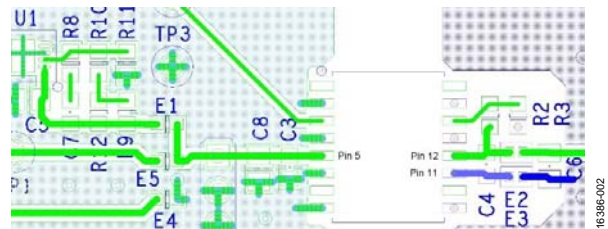
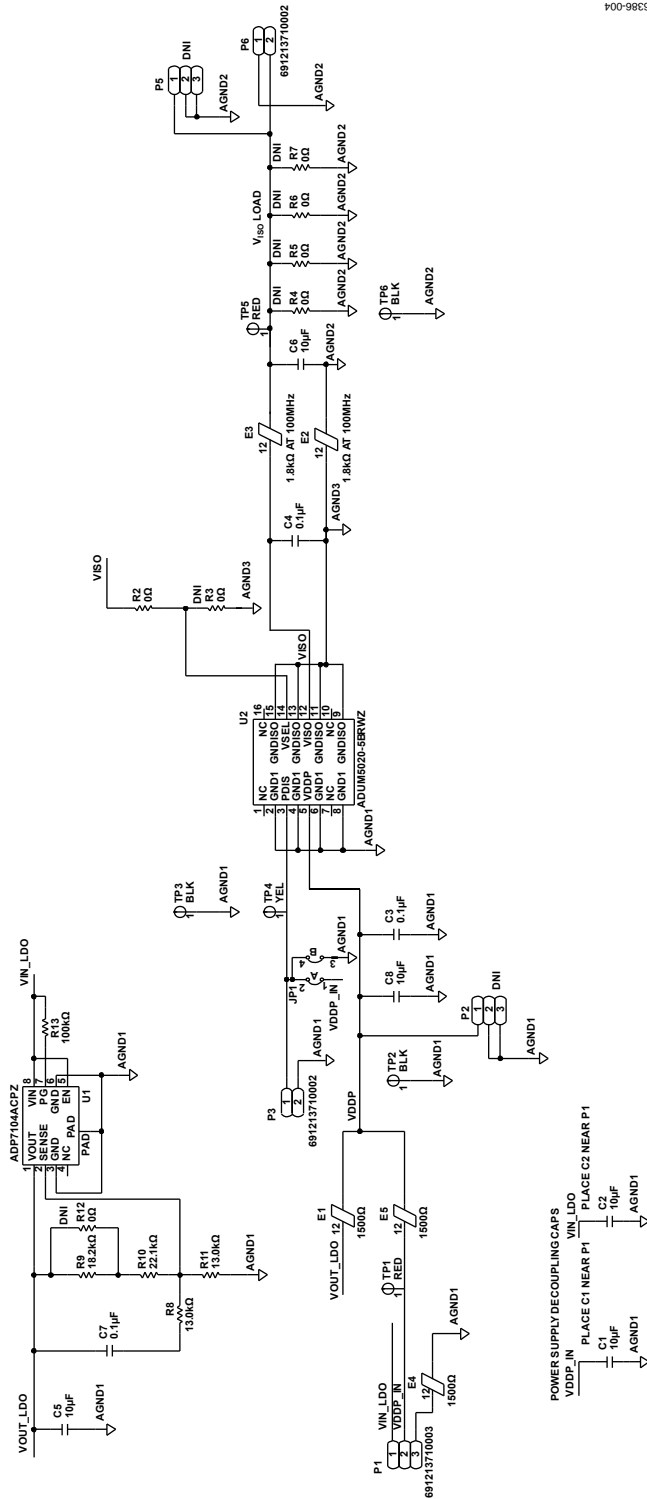
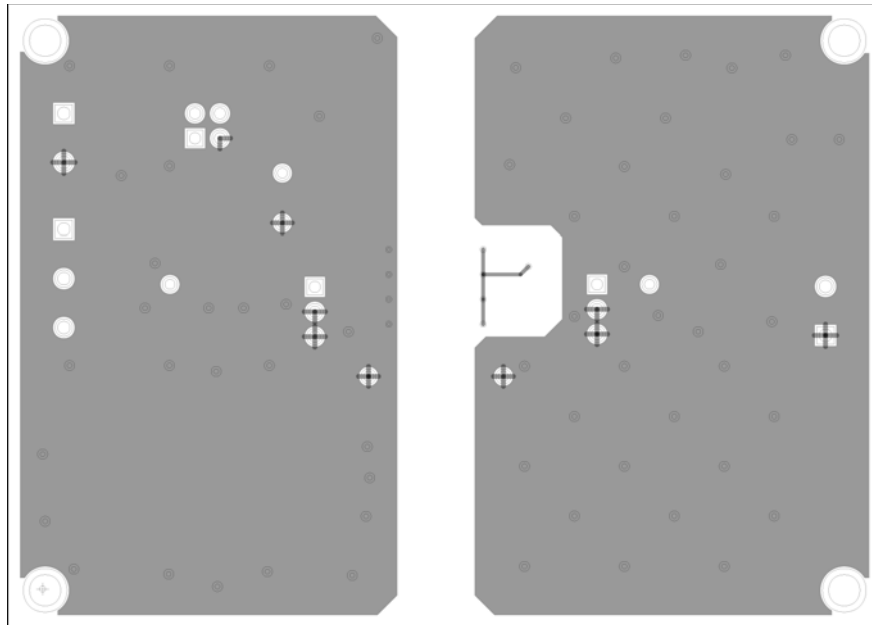

Figure 2. Layout Notes for EVAL-ADUM5020EBZ
Figure 5. EVAL-ADuM5020EBZ Evaluation Board Schematic
Figure 7. EVAL-ADUM5020EBZ Evaluation Board Bottom Layer and Silkscreen
To reduce the level of electromagnetic radiation, increase the impedance to high frequency currents between the V_{ISO} and the GND_{ISO} pins and the PCB trace connections. Using this method of emissions suppression controls the radiating signal at its source by placing surface-mount ferrite beads in series with the V_{ISO} and GND_{ISO} pins (see Figure 5). The impedance of the ferrite bead is approximately 1.8 k Ω between the 100 MHz and 1 GHz frequency range. This impedance value reduces the emissions at the 180 MHz primary switching frequency and the 360 MHz secondary side rectifying frequency and harmonics. See Table 2 for examples of appropriate surface-mount ferrite beads.
To pass CISPR22/EN55022 Class B on a 2-layer PCB, the following layout guidelines are recommended (refer to Figure 2 and the schematic in Figure 5):
- Do not connect the V_{ISO} load (shown in Figure 5) to a power plane; connect using a PCB trace.
- Ensure that V_{ISO} (Pin 12) is connected first through the E2 ferrite before connecting it to the V_{ISO} load, as shown in Figure 2.
- Ensure that there is a keep out area in the PCB layout around the E2 and E3 ferrites, as shown in Figure 2 (no PCB planes under or alongside E2 and E3).
The EVAL-ADUM5020EBZ evaluation board design has been tested to pass the CISPR22/EN55022 Class B standard. Table 3 provides a summary of the results. All CISPR22/EN55022 radiated emissions tests were performed with the PCB schematic and layout shown in Figure 5 to Figure 7.